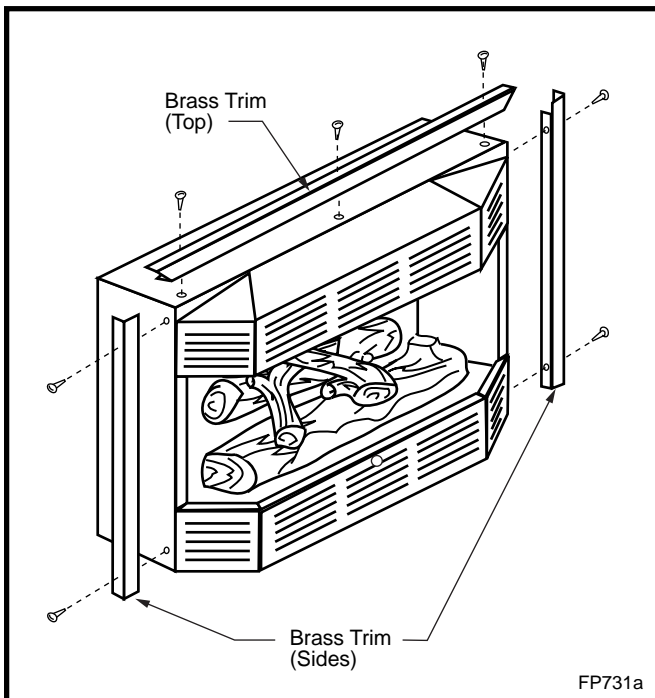

Fig. 3 Installing brass trim.
2. Using the (2) screws provided, attach the side pieces to the heater. (Fig.3)
3. Mount the top trim to the heater. Loosen top three (3) screws and slide trim under the screws, tighten the screws. Be sure to overlap top trim to the front side of the side trim pieces.